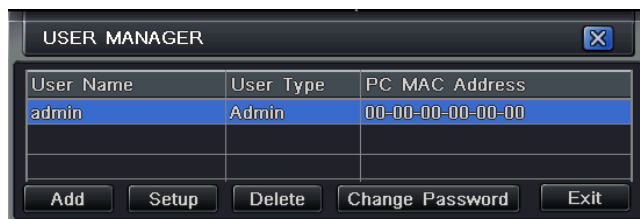

Fig 4.32 User Management Configuration
Step 1: Enter into system configuration → user management configuration. Refer to Fig 4.32.